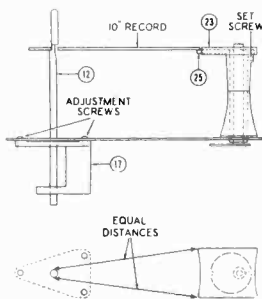

Fig. 8
3. Record Support Shelf (25) out of position with respect to Center Post (12).
The Record Support Shelf (25) should be so positioned that the curve of the plate matches the curve of the record and both corners are equidistant from the center of the Center Post (1); (see Fig. 8).
- a. With Record Support in 10-inch position, carefully place a standard 10-inch record so that it rests on Record Support Shelf and shoulder off-set in the Center Post (12).
- b. Loosen Set Screw at rear of Record Support Post (see Fig. 8). Rotate the shelf in either direction until curve of the shelf matches the curve of the record and both corners are equidistant from the edge of the record.
- d. Remove Turntable from changer. Loosen three Phillips head Adjustment Screws (see Fig. 8) that hold Center Post Support (17) to base plate.
- e. With Record Support in 10-inch position, carefully place a standard 10-inch record so that it rests on Record Support Shelf (25) and shoulder off-set in the Center Post (12).
- f. Adjust the distance by sliding the Center Post (12) assembly until record rests on the Record Support Shelf (25) but not on Record Feed Plate (23). There should be a small amount of play to allow next record to drop and to prevent record from jamming between Record Support Shelf (25) and Center Post (12).